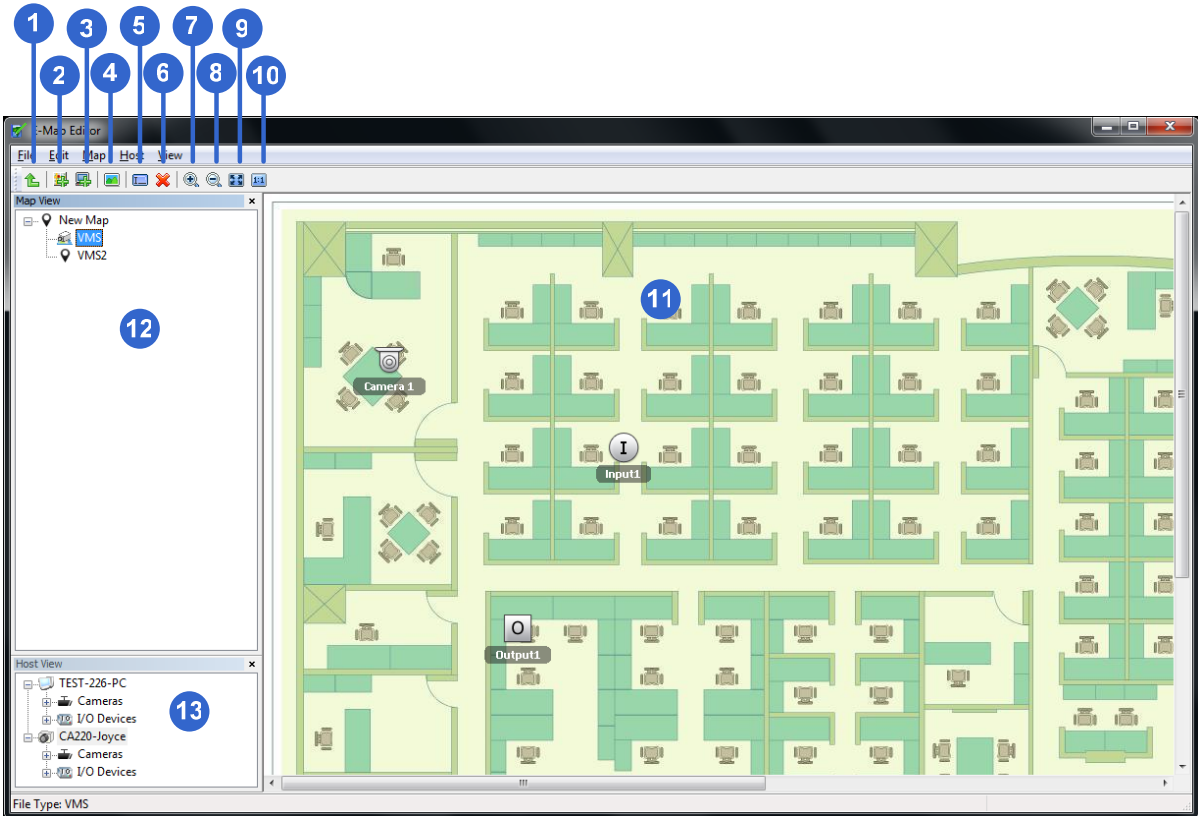

Figure 8-1
2. Select and right-click **New Map** under Map View, and select **Load Map** to import a graphic file. The file opens in the Floor Plan window (No. 11, Figure 8-1).
3. Double-click the local server folder in Host View (No. 13, Figure 8-1). The program will automatically detect the number of cameras and I/O devices installed at the server, and display their icons.